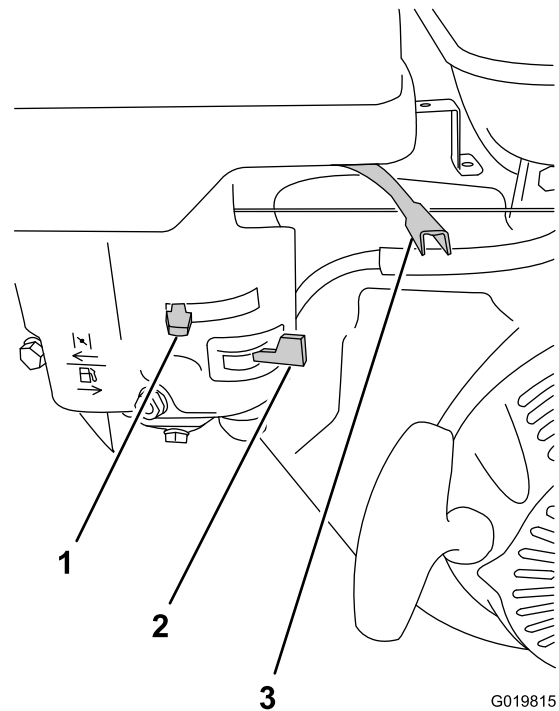

Figure 38
2. On the engine, move the throttle lever away from the Min position, 1/3 of the way toward the Max position (Figure 38); refer to Throttle Lever (page 13).
3. Move the lever of the fuel valve to the On position—all the way to the right (Figure 38); refer to Fuel Valve (page 13).
- To start a cold engine, move the choke lever to the Closed position—all the way to the left (Figure 38); refer to Choke Lever (page 13).
- Move the throttle lever to the slow (turtle) position (Figure 38).
- Move the fuel valve to the Off position (Figure 38) and rotate the engine On/Off switch to the Off position; refer to Engine On/Off Switch \(page 13\).